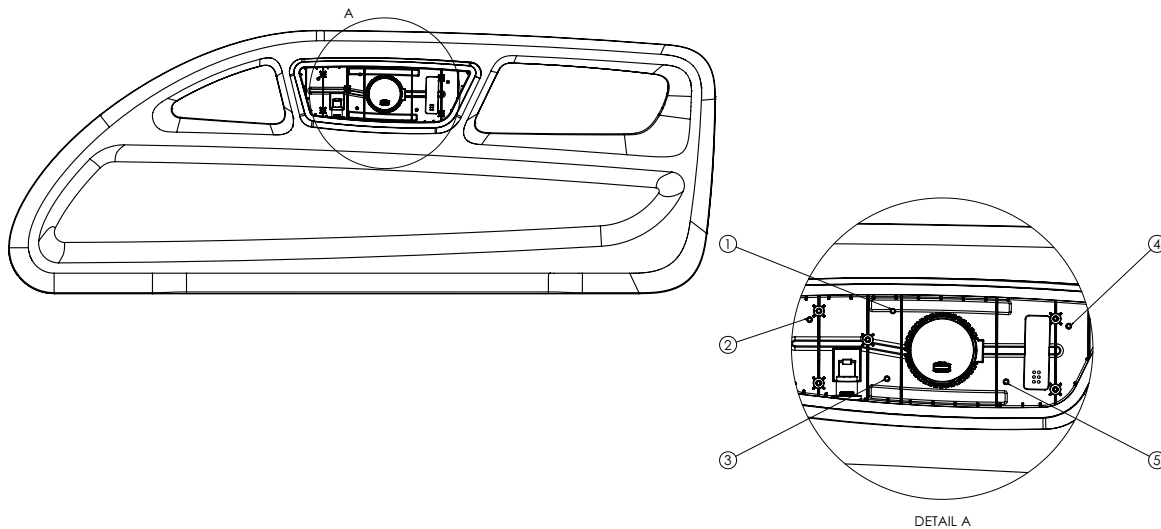

Figure 27 – PCBA and snaps
7. Twist the PCBA (A) away from the locating pins. Twist the RJ50 connector out of the side panel (Figure 27).
9. Using a hammer and pin, hit at the specified locations to release the five snaps (Figure 27, Detail A).
11. Using a step drill or a min Ø17 drill, drill at the punch locations (Figure 27, Detail A). Drill until the snap edges are cut.